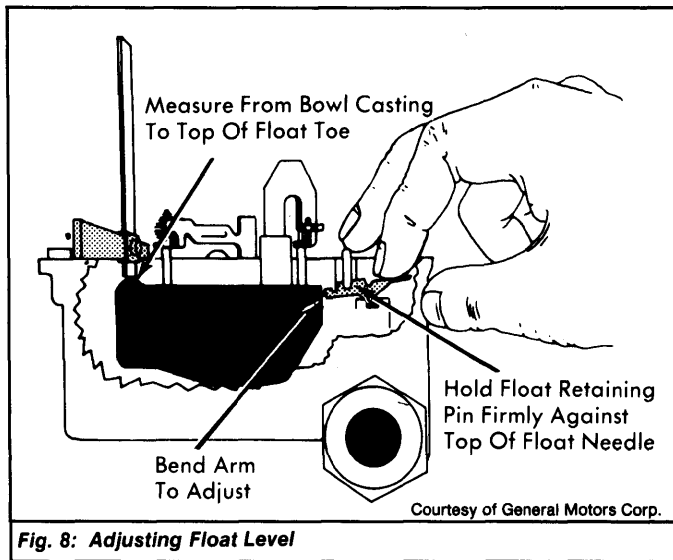

Fig. 8: Adjusting Float Level
- 1) Remove air horn. Hold float pin firmly in place. Push down on end of float arm against top of float needle. See Fig. 8.